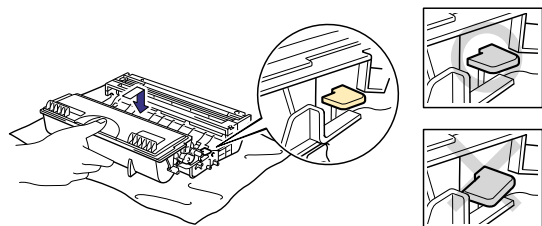

Fig. 5-3
- (4) Unpack the new drum unit, and remove the protective materials.
- (5) Install the toner cartridge into the new drum unit until you hear it lock into place with a click. When the toner cartridge is installed correctly, the lock lever is lifted automatically. (Fig.5-3)